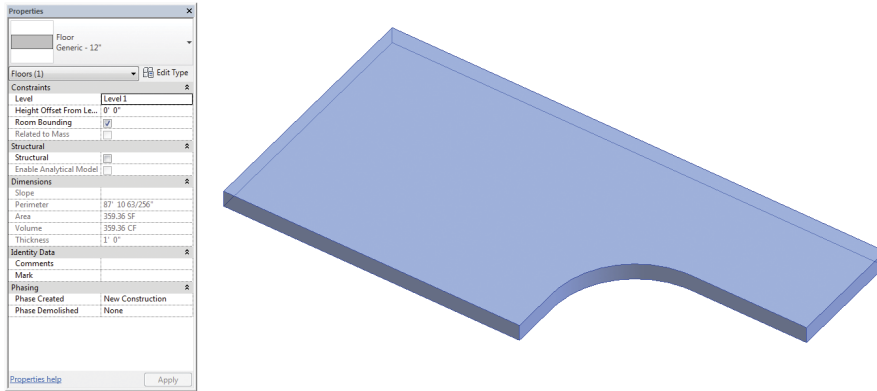

FIGURE 3.4 The modified floor
3. Finish the sketch by clicking Finish Edit Mode. Select the floor, and notice that the options and dimension properties have already updated, as shown in Figure 3.4.